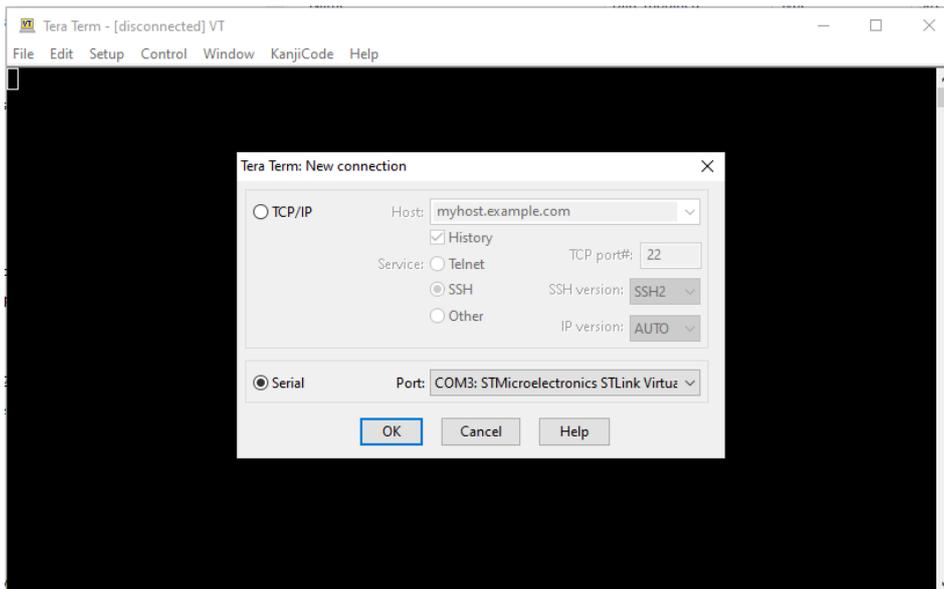

Figure 10: Select the serial port
- Step2:** Select the Serial and choose the correct com port as showed in figure 10.